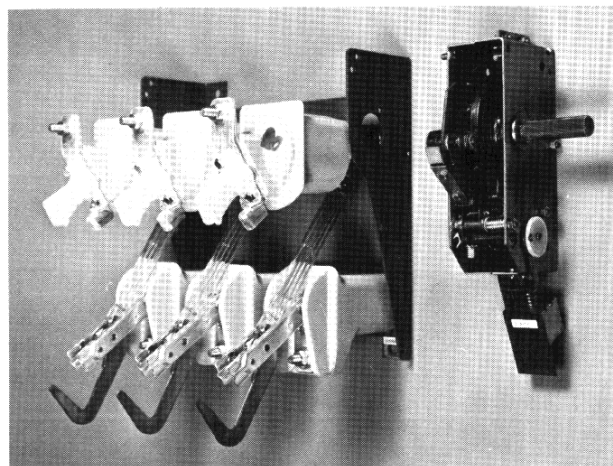

Fig. 9
4.0 MOUNTING THE MECHANISMS ON THE SWITCH. FIG. 9.